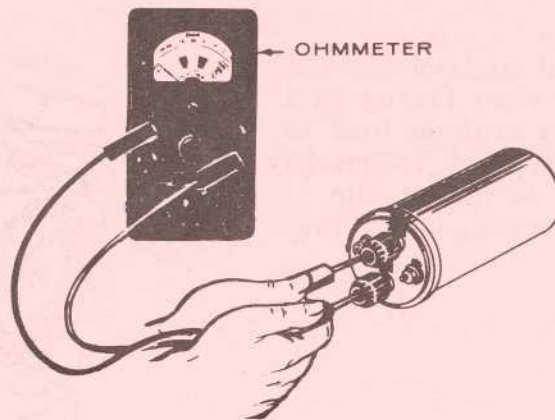

FIGURE 1. TESTING IGNITION COIL
3. Change resistance setting on meter. Place meter leads inside of spark plug cable holes (Figure 1). Secondary resistance should read 10,800 to 15,400 ohms.